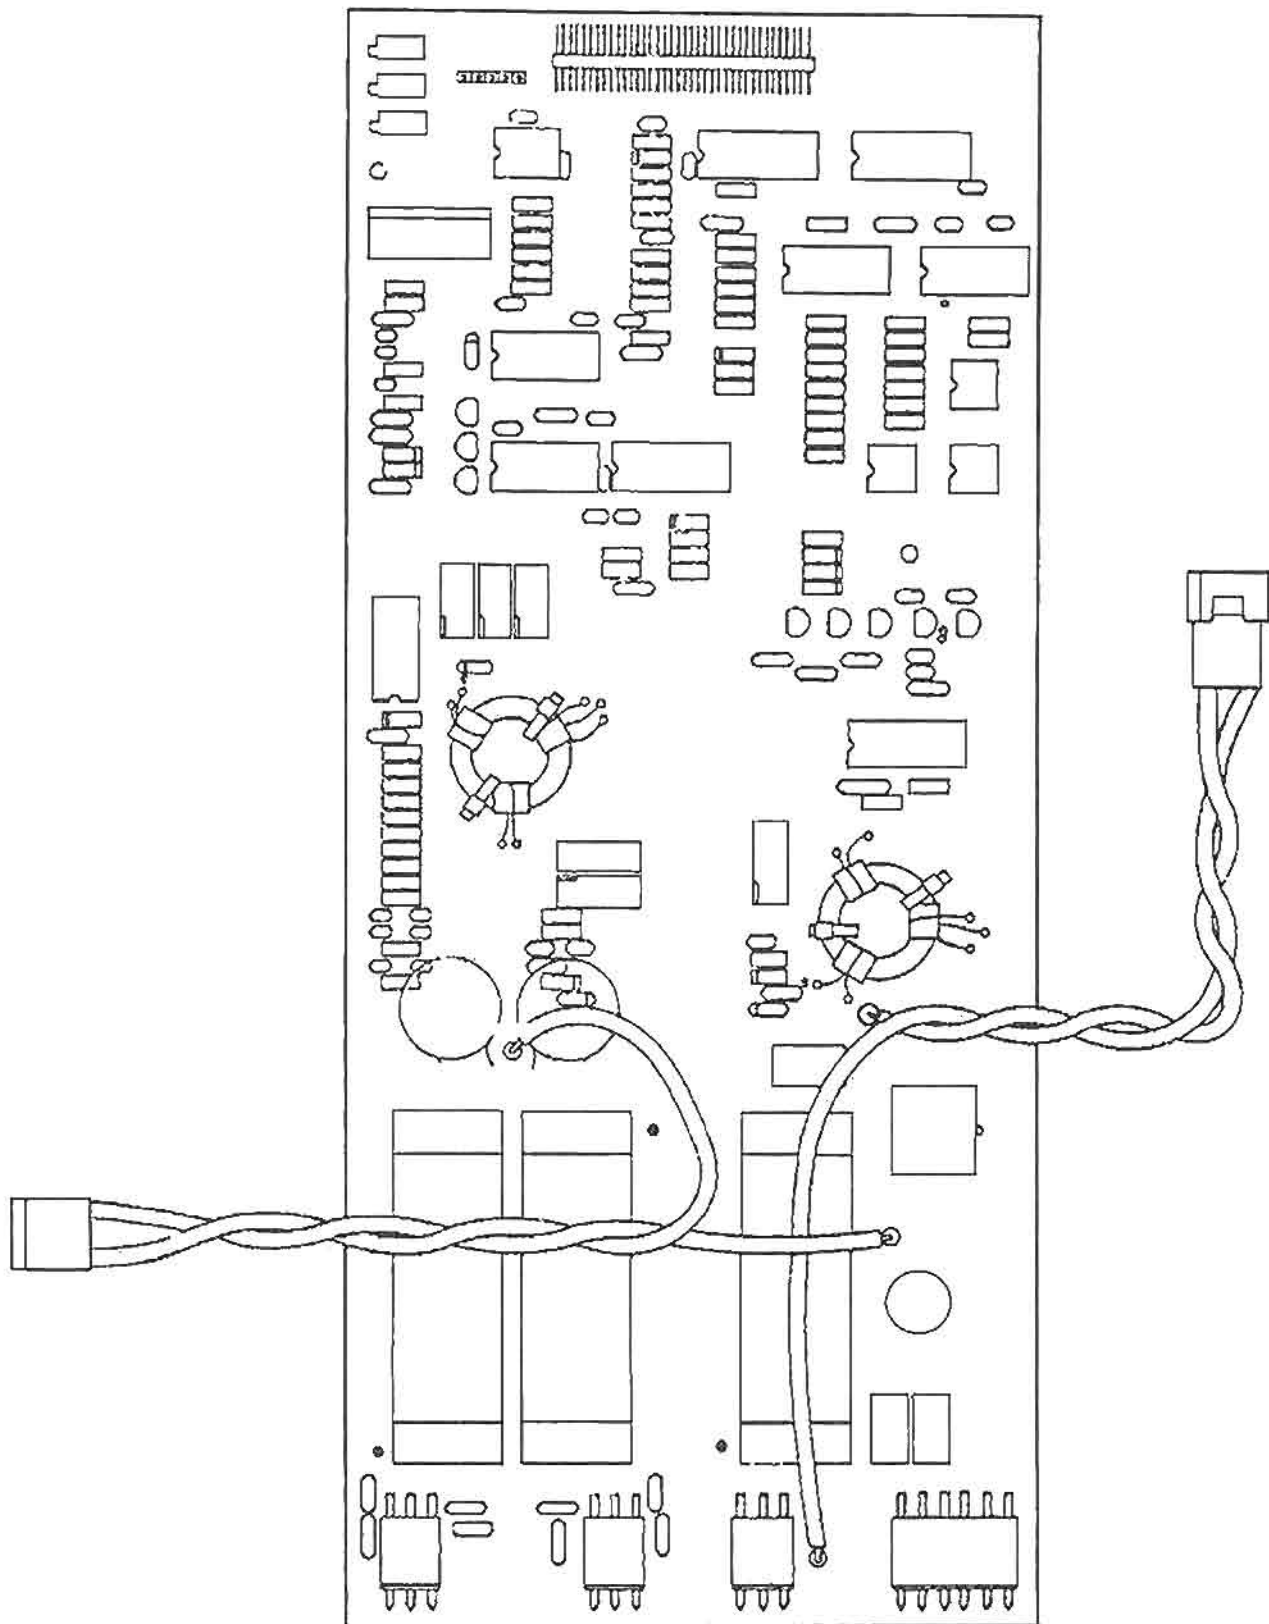

Figure 4-11. Interface PCB.
- (3) Interface PCB — figure 4-11.